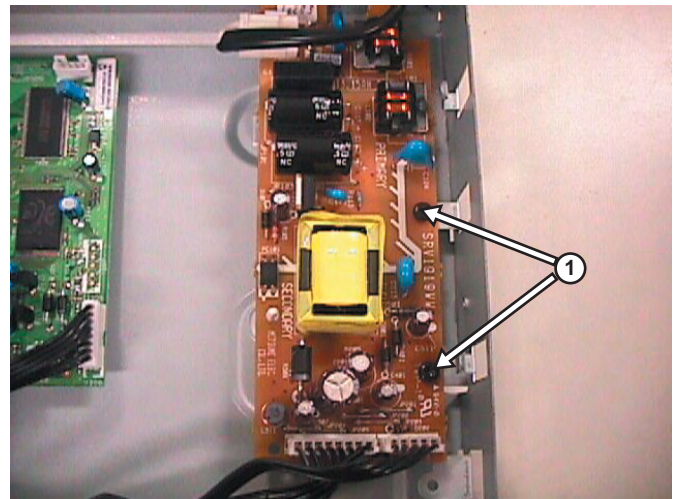

Figure 4-3
- 2) Loosen 2 screws (See Figure 4-3) to remove the PSU Module.